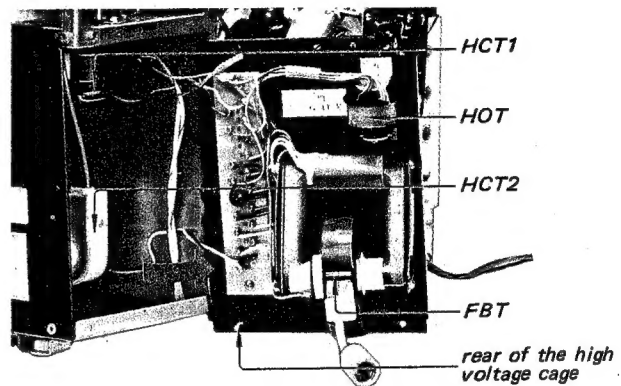

Fig. 2-29.
10. Pull off the rear of the high voltage cage as shown in Fig. 2-29.